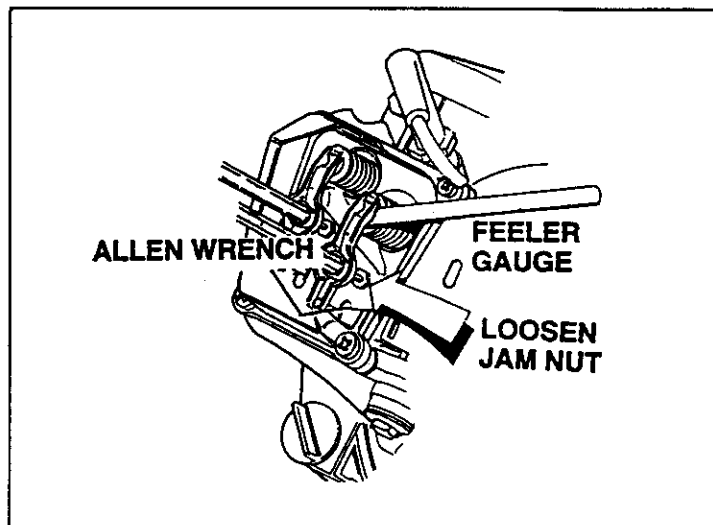

FIG. 16
- Loosen the rocker arm jam nut. Use an allen wrench to turn the pivot ball stud while checking clearance between the rocker arm and the valve stem with a feeler gauge (Fig. 16).